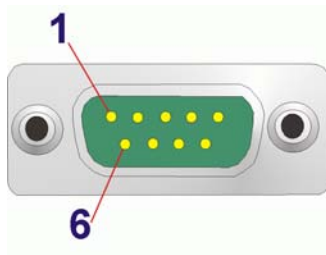

Figure 4-20: COM1 Pinout Locations
- CN Pinouts:** See Table 4-20 and Figure 4-20